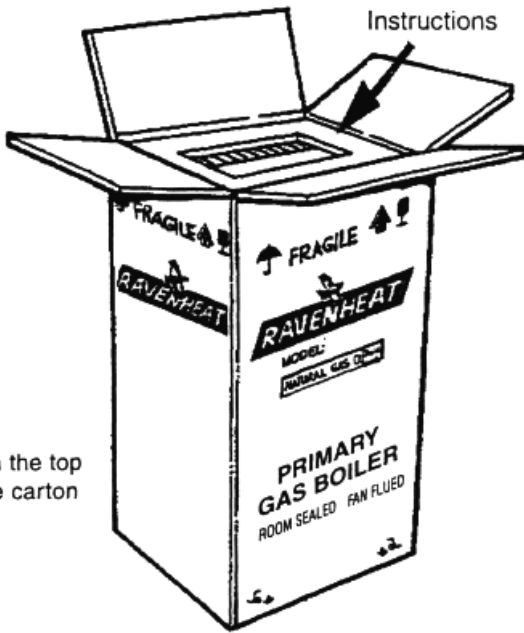

Fig 15
5.2.1 The appliance carton containing (Fig.15).